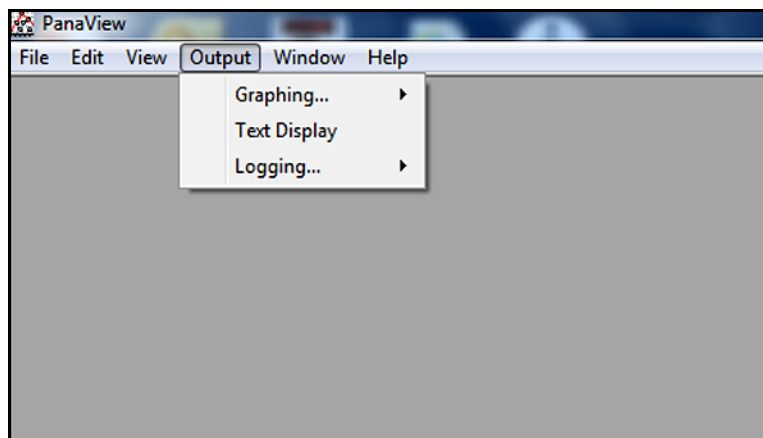

Figure 60: The Output Menu
To access PanaView's data handling options, pull down the "Output" menu, as shown in *Figure 60* below.
2. Pull down the “Output” menu and click “Text Display” option (see Figure 60 on page 51).
2. Pull down the “Output” menu and click “Graphing - New” option (see Figure 60 on page 51).